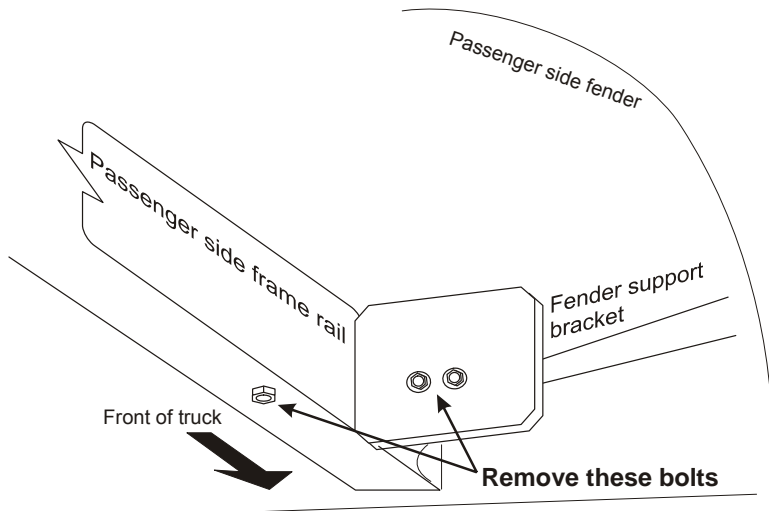

Figure 2.4
- Remove both OEM fasteners from the fender support bracket on the passenger side of the truck (Figure 2.4). On four-wheel drive trucks, remove the hex head bolt on the bottom of the frame that holds the tow hook in place. Some trucks may have a hole in the frame where the tow hook would be attached.